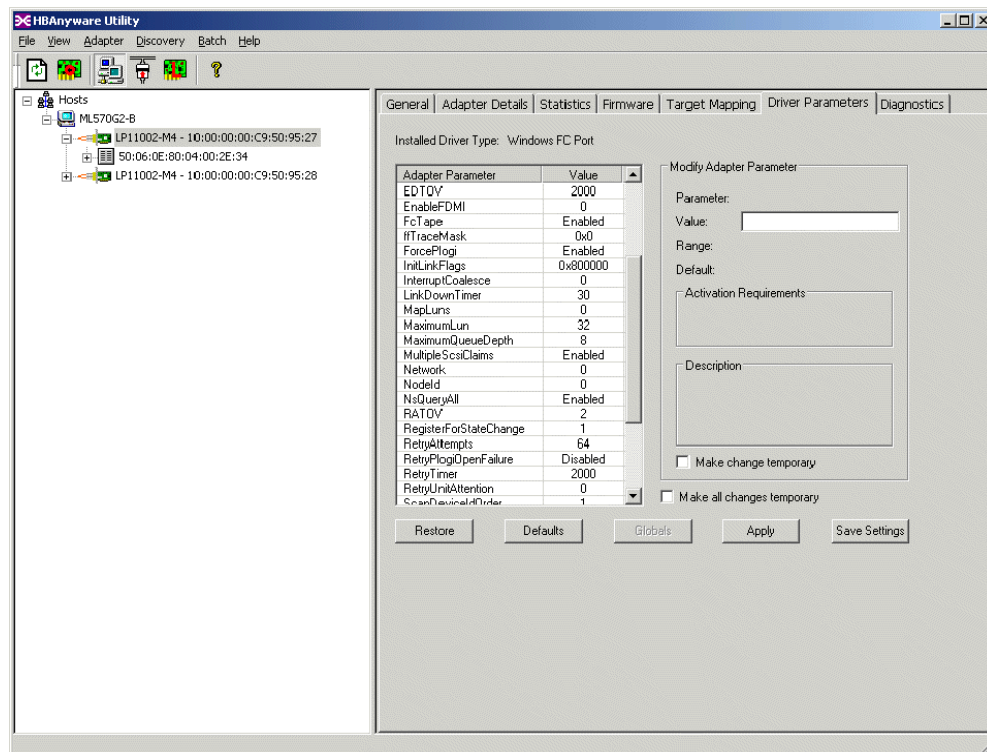

Figure 2-7: Emulex Configuration Tool Panel
- a. For the SCSI Port Driver, Queue Depth (Maximum Queue Depth) is set using Emulex Configuration Tool as shown in Figure 2-7 on page 2-12. Queue depth requirements are listed in Table 2-3 on page 2-5.